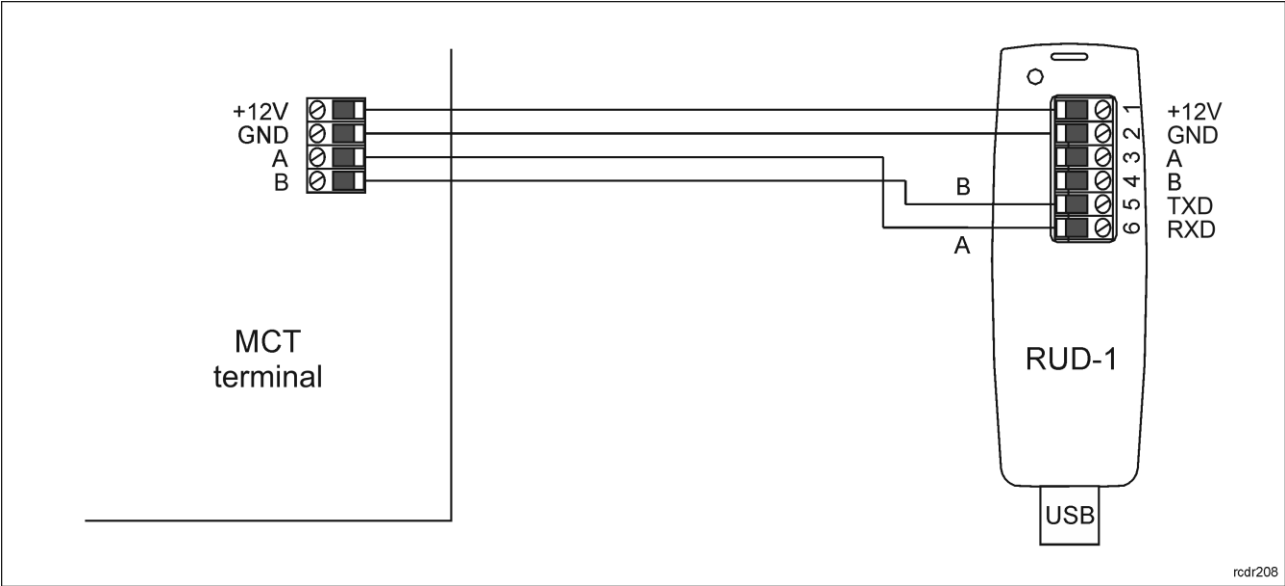

Fig. 9 Connection to RUD-1 interface (firmware update).
1. Connect the reader to RUD-1 interface (fig. 9) and connect the RUD-1 to computer's USB port.